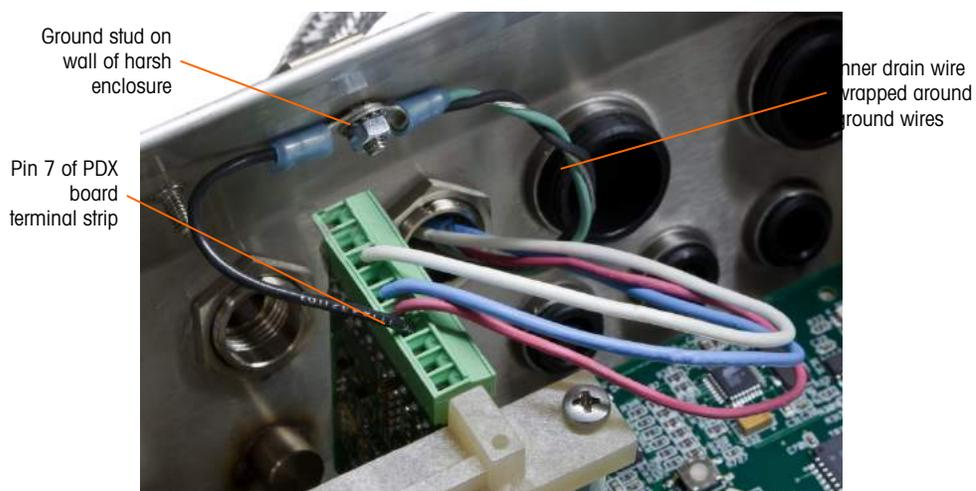

Figure A-66: POWERCELL PDX Home Run Power Ground Connection, Harsh
- b. Next, twist the home run cable's inner drain wire together with the black and green ground wires and make a connection to the same ground stud using another ring terminal as shown in Figure A-66.